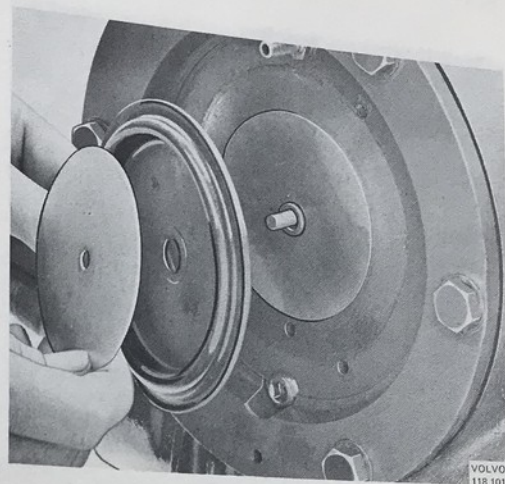

Fig. 92-23. Fitting the diaphragm
4. Place the spacer washer on the rod. Fit the diaphragm and the thrust washer, see Fig. 92-23. Tighten up the nut.